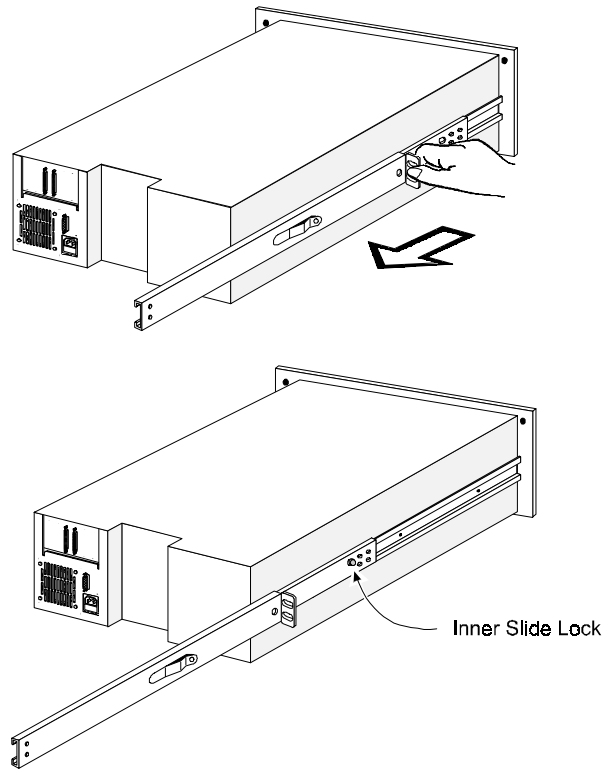

Figure 2-11 Separating a Rack Slide
2. Refer to Figure 2-11. Separate each set of slides as follows: